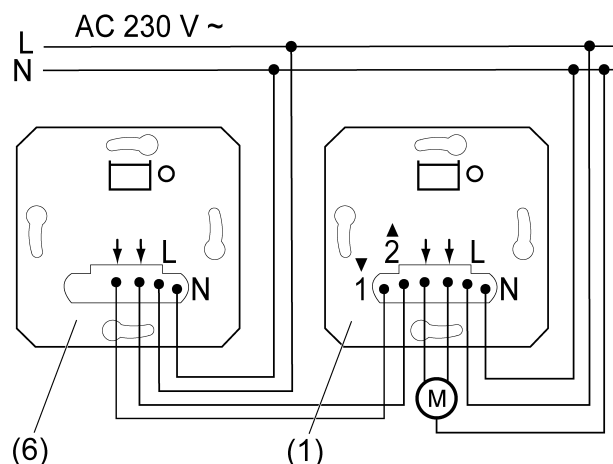
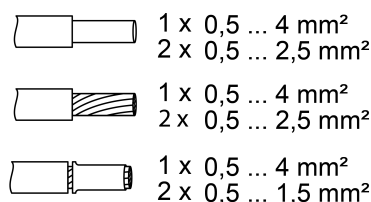

Figure 2: Control with extension
Figure 3: Terminal-specific cable cross-section:
- Connecting venetian blind insert (1) (Figure 2). Note clampable cable cross-sections (Figure 3). Optional: Connection of an extension (6). A mechanical venetian blind push-button or venetian blind switch can also be used as an extension instead of the venetian blind insert.